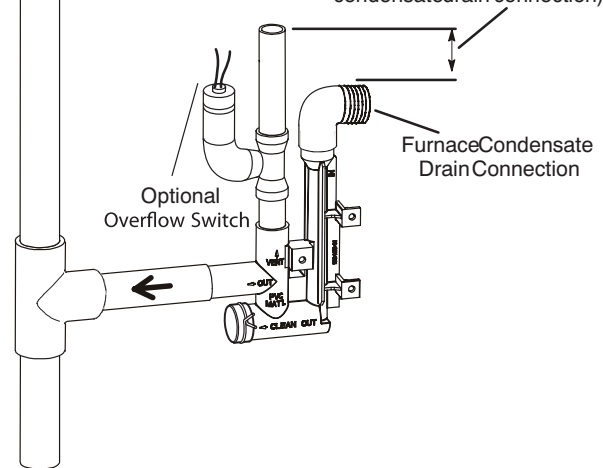
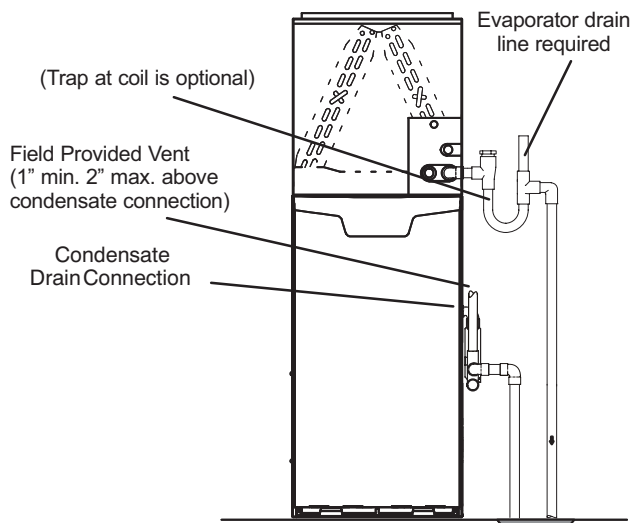
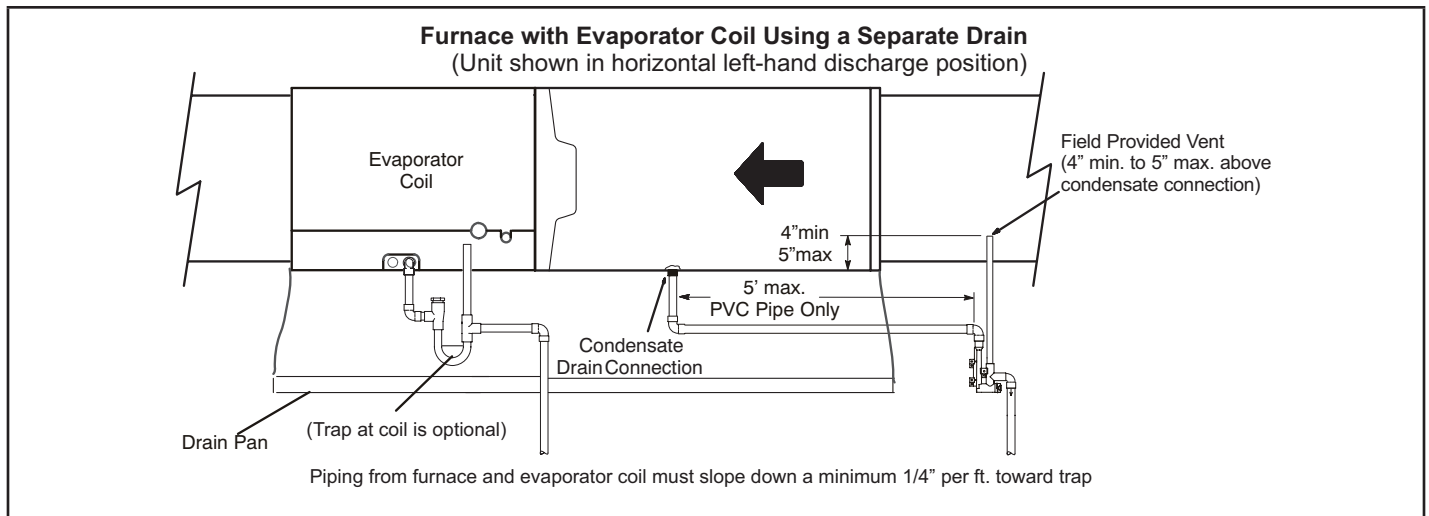
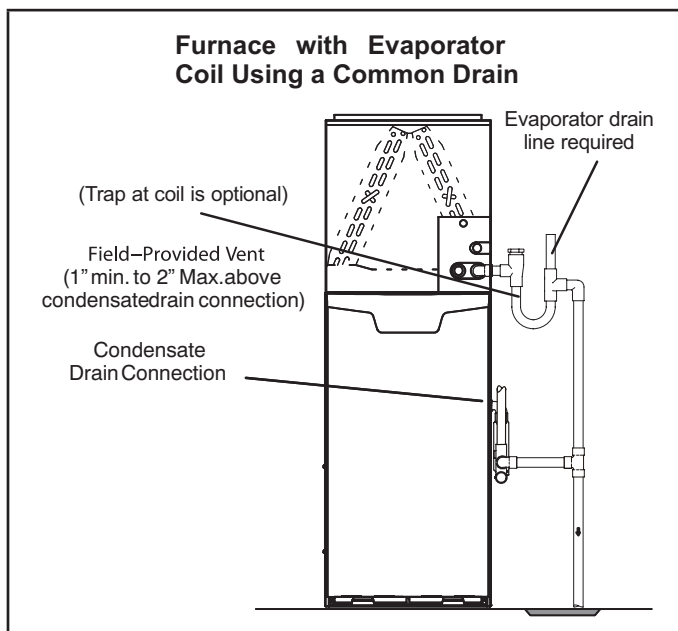

Figure 50
Figure 49
Figure 51
Figure 52
- 5 - Figure 49 and Figure 51 shows the furnace and evaporator coil using a separate drain. If necessary the condensate line from the furnace and evaporator coil can drain together. See Figure 50, Figure 52 and Figure 53. Upflow furnace (Figure 52) - In upflow furnace applications the field provided vent must be a minimum 1" to a maximum 2" length above the condensate drain outlet connection. Any length above 2" may result in a flooded heat exchanger if the combined primary drain line were to become restricted. Horizontal furnace (Figure 53) - In horizontal furnace applications the field provided vent must be a minimum 4" to a maximum 5" length above the condensate drain outlet connection. Any length above 5" may result in a flooded heat exchanger if the combined primary drain line were to become restricted.